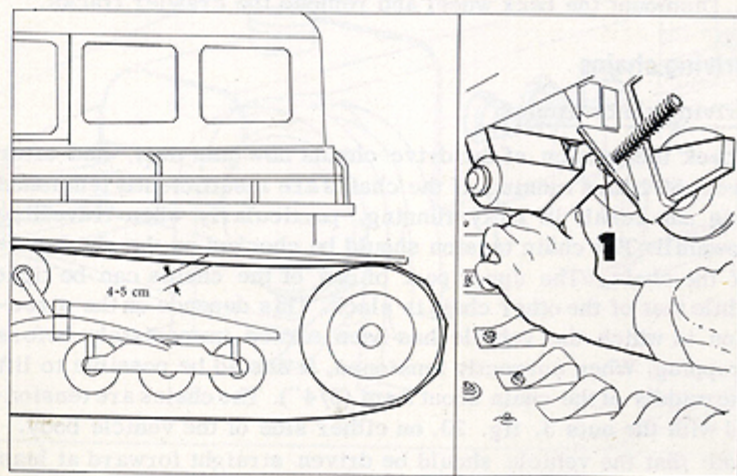

Fig. 19
2. The tension is checked on the upper part of the track between the front support wheel and rear drive wheel. Place a straight-edge or similar on top of the track between the points at which it is supported. The tension of the track is correct when it sags 4-5 cm (1 3/16"-1 9/16") as shown in the figure 19.
3. Tighten the tracks if necessary by moving the rear wheels with the nuts on the adjusting screws 1, fig. 19.
3. Slacken the crawler track tension with the nut 1, fig. 19.